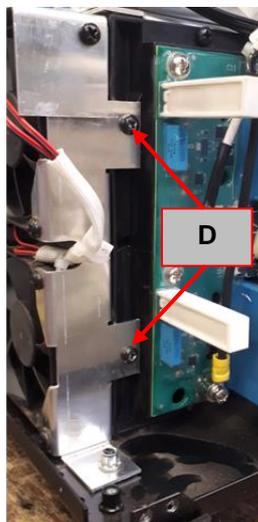

Figure 45
9. Using the PH02 screwdriver remove the 2 screws (**D**). See **Figure 45**